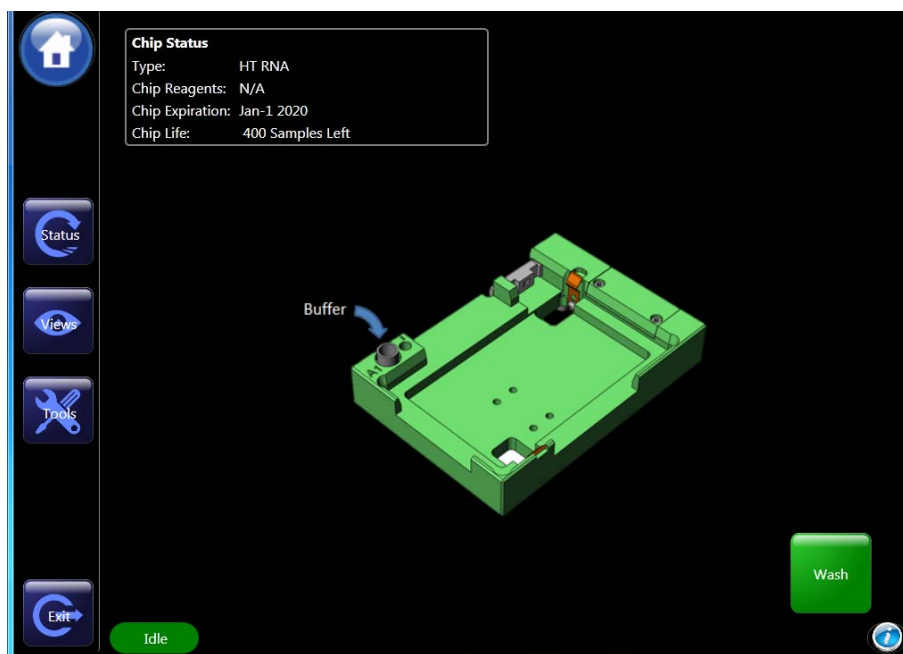

Figure 14. Wash screen
- 9 Touch the **Wash** button on the Home screen. The Wash screen (Figure 14) opens.